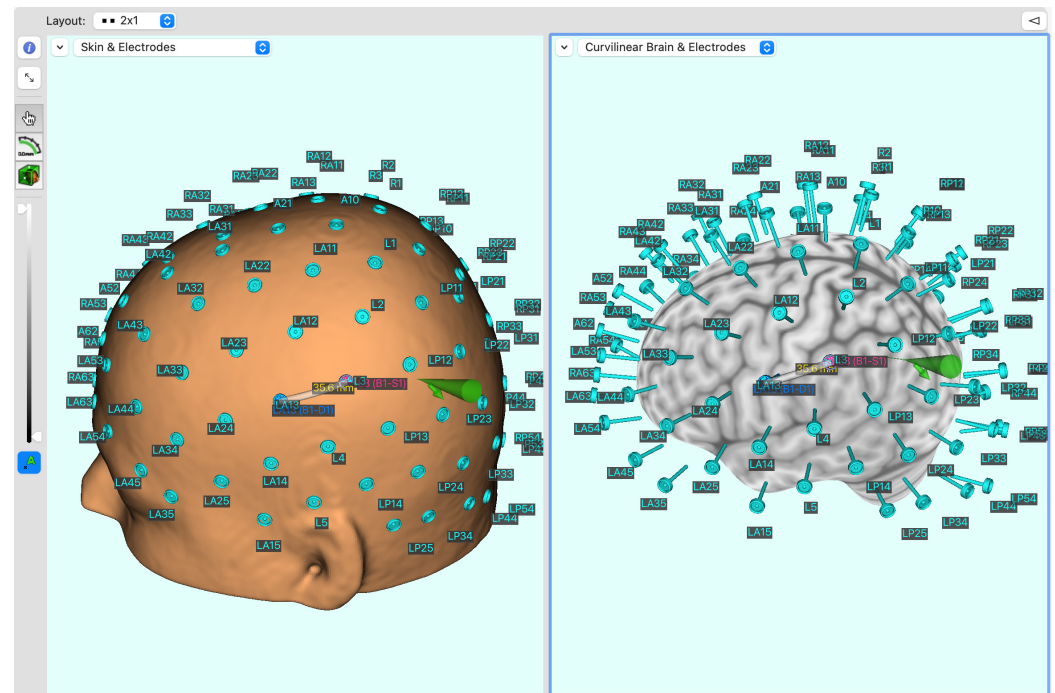

Fig. 4-6
- Notice that nothing has changed in the image views. You can display an update of the progress by applying the partially built assembly. In the image window, select **Add...->From Assembly List....** Instead of the cap layout selected at the start, select the assembly list. Be sure to keep the **Coordinate System** as MNI and the **Snap To:** as Skin. Notice that the source-detector pair is displayed on the images (Fig. 4-6).